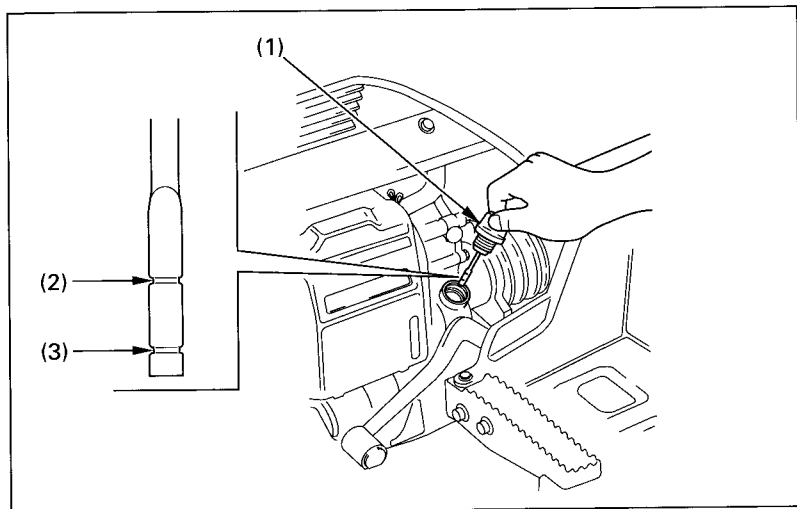

Fig. 2-22 (1) Oil filler cap/dipstick (2) Upper level mark (3) Lower level mark
The oil filler cap/dipstick (Fig. 2-22), on the right crankcase cover, is used to measure the oil level. The oil should be checked each day before operating the FOURTRAX and maintained between the upper level mark (2) and the lower level mark (3).